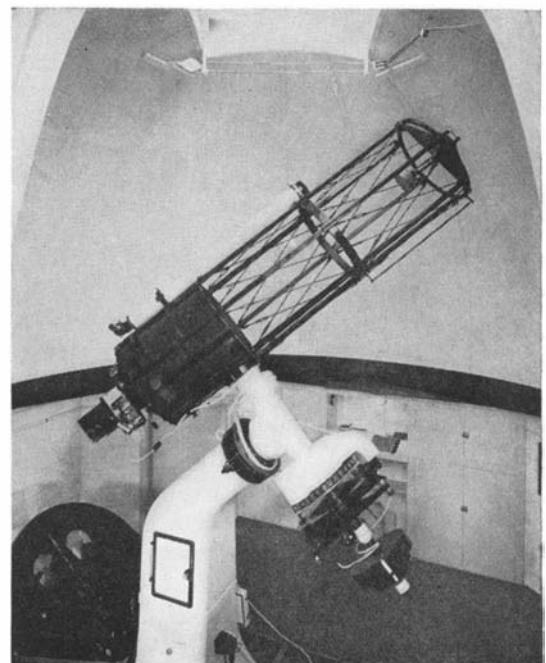

Figure 3: Reflector at Lake Angelus
**A**DVANCED amateurs and groups who are planning rather large reflectors will find a cleanly designed 24" described in Vol. VIII, No. 6, of the Publications of the Observatory, University of Michigan. This publication, while not available for general distribution, may be consulted at astronomical observatory libraries. The 24" (Figure 3) was designed by Robert R. McMath and George H. Malesky, of the staff of the McMath-Hulbert Observatory. The former is an amateur telescope maker and astronomer (motor car manufacturer) who turned professional and is widely known for his tower telescopes, his spectroheliokinematograph and other instruments, at Lake Angelus, Pontiac, Michigan, also for his educational motion pictures of the planets and of solar prominences. The new telescope will be used first for doing over these films, with the greater resolution it affords.